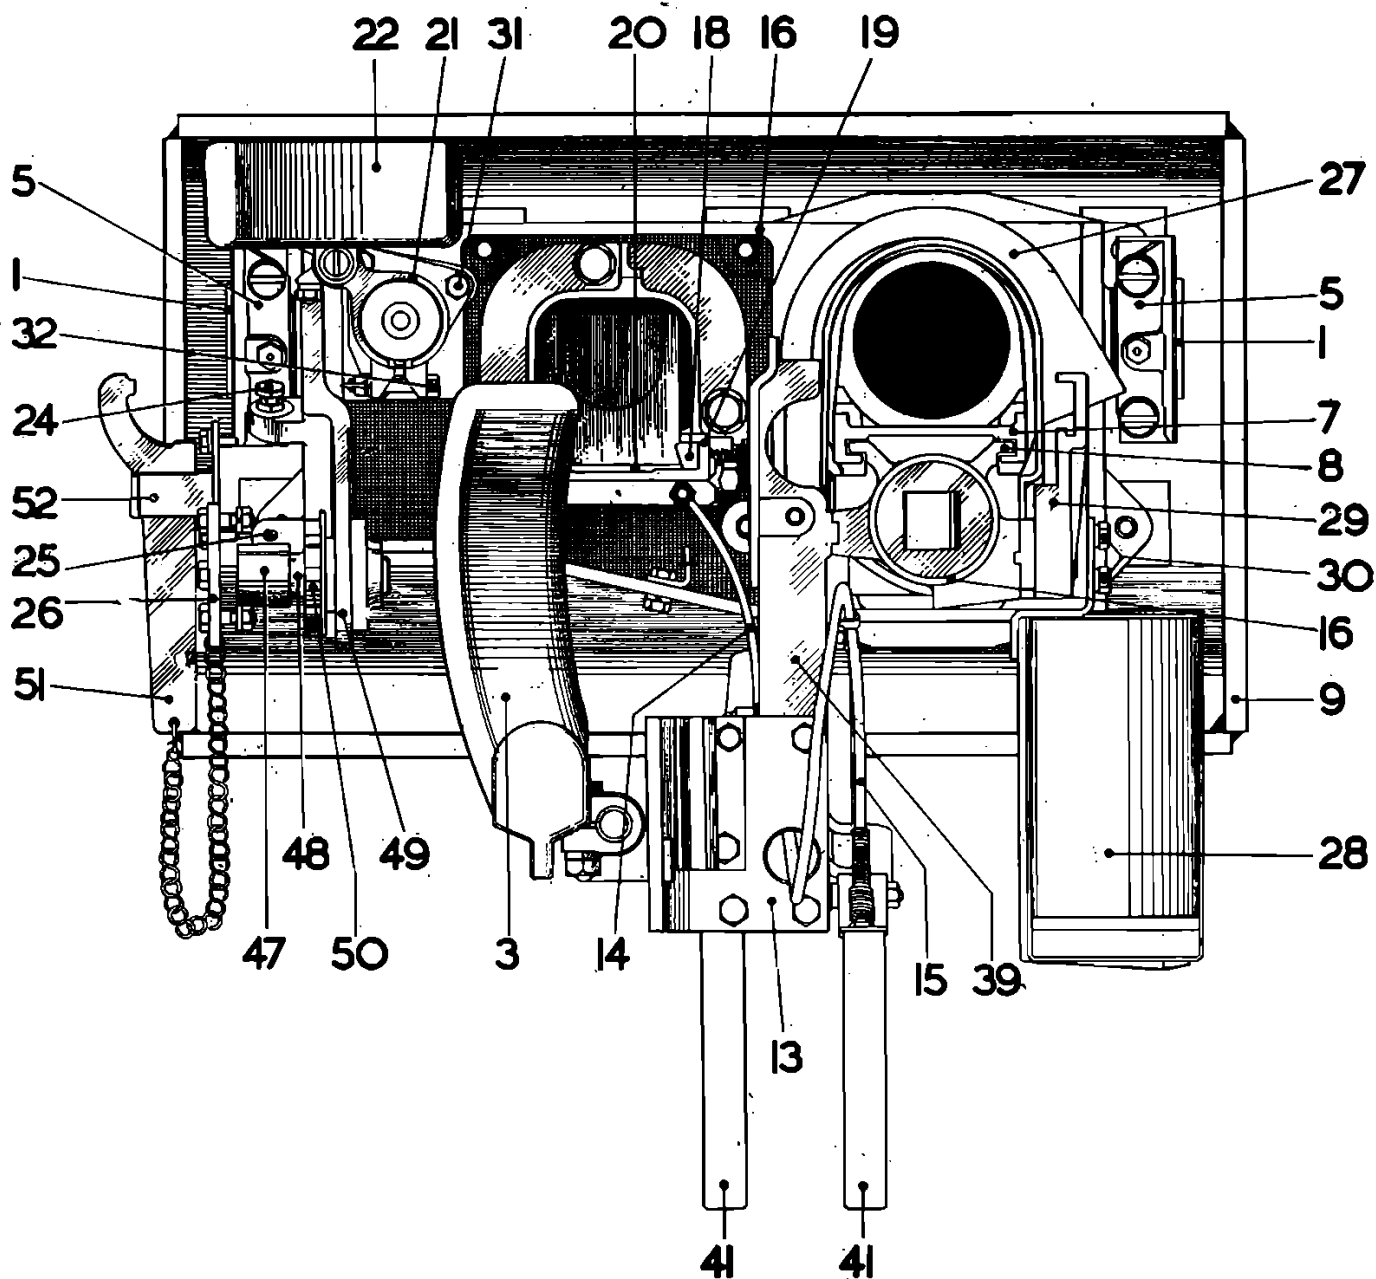

Figure 98. Mounting 37 m/m and Med. Besa No. 1 Mark I. Rear View
The mounting (see Plates 21, 22 and Fig. 98) is suspended in trunnions (1) from the front plate (2) of the turret. Elevation is free, that is, obtained by pressure on a shoulder-piece (3) and traverse is obtained by rotating the turret. Plates (4) welded to the turret front plate, form a splash protection round the mounting, the side ones having brackets (5) welded to them to receive the trunnions on the inner cradle (6). The cradle (6) is a manganese bronze casting with three frontal apertures for mounting the 37 m/m gun (A), Besa M.G. (B) and the sighting telescope (C). The 37 m/m gun (A) is held in a slipper (17) operating on a slide (8) formed on the body of the buffer which extends through the right aperture in the cradle and is bolted in place. The M.G. (B) is mounted to project through the centre aperture of the cradle and the left is used for sighting. To allow for discrepancies in the welding of the turret plates and trunnion brackets, shims are fitted over the trunnions between the brackets and cradle. The bullet-proof outer mantlet (9) is fabricated with projections (10) and (11) to cover the slipper and buffer and the mechanism of the M.G. respectively, the frontal face of the
The mounting bracket (21) (See Plates 21, 22 and Fig. 98) which receives the telescope (C) is bolted to the inner cradle (6) by bolts (31) the telescope being removable and held in place by the clamping bolt (32). The bracket supports the browpad (22) by means of a browpad arm (33) clamped in position by a clamping bolt (34), which permits the browpad to be adjusted relatively to the eye-piece of the telescope. Further the browpad is pivotally mounted on a bolt provided with a wing nut (35) so that further adjustment can be effected at this point.
The deflector (23) (See Plates 21, 22 and Fig. 98) is secured to the rear of the cradle, by a bracket (36) which also supports a deflector chute (37), into which empty cartridge cases are deflected upon ejection. The deflector chute is of canvas stiffened at the upper part where it is attached to the bracket by "Lift the dot" fasteners (38). The base of the chute is secured to a frame formed with a handle.
These two assemblies are mounted on a housing bracket (39 See Plates 21, 22 and Fig. 98) common to both assemblies. The bracket is bolted to the cradle of the 37 m/m gun by the bolts (40) in a position between both guns and supports the two pistol grips (41) and the shoulder piece (3). The left hand pistol grip controls the firing of the Besa M.G. by means of the Bowden cable (15) and the right hand pistol grip controls the firing of the 37 m/m gun by the Bowden cable (14) and crank (42) which actuates a control rod, mounted in bushes in the housing, bearing on the trigger of the 37 m/m gun. The shoulder-piece (3) is shaped to fit the shoulder and adjustably mounted on an arm (43), by a clamp (44), the arm being held in a clamp (45) adjustable in a slotted bracket (46), bolted to the firing control housing.
Provision whereby the mounting may be locked in position, consists of the clamping gear which comprises a bush secured to an extension of the front turret plate and a clamp bolt (48). (See Plates 21, 22 and Fig. 98) associated with a quadrant slot formed in an extension (49) of the inner mantlet. The clamp bolt rotates in a recess in the bush and can be clamped to the extension (49) by a clamp nut (50) by means of a spanner (51) anchored by a chain and held in an out of use position in a clip (52).